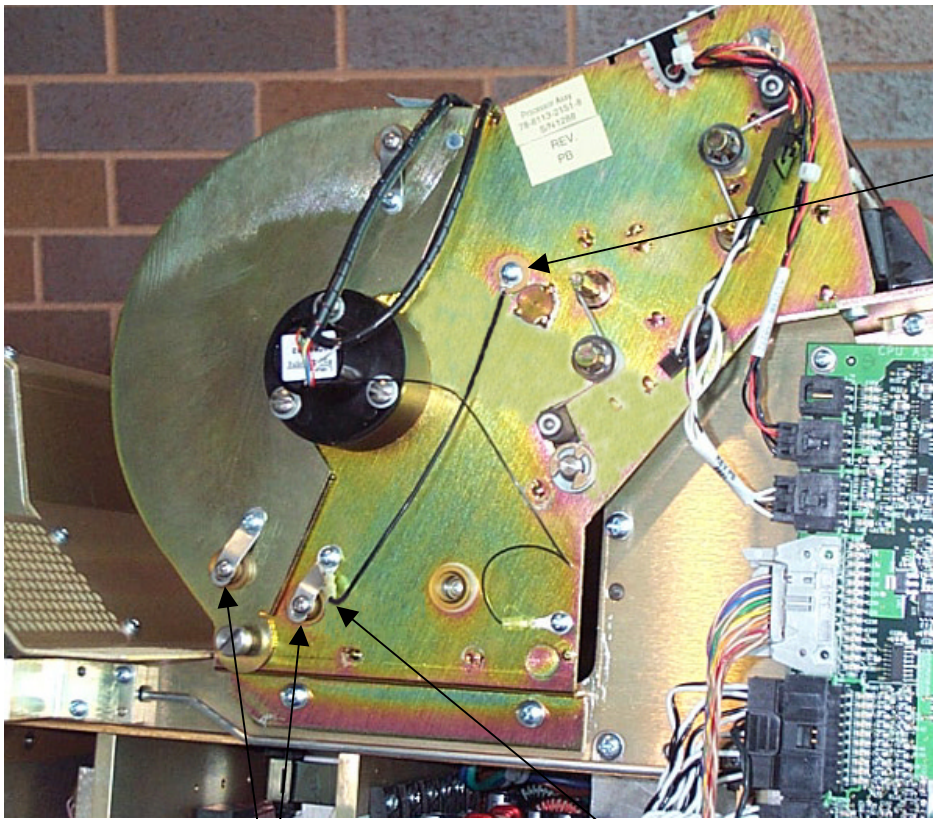

Figure 2
2. Attach one end of the WIRE (supplied in the KIT) to the STRIPPER ASSEMBLY using the right mounting SCREW of the STRIPPER ASSEMBLY (see Fig. 2).
3. Attach one end of 1 small STRAP (supplied in the KIT) along with the loose end of the WIRE referred to in Step 2, to the FRAME where the CLIP was removed in Step 1 (see Fig. 2).
4. Remove the SCREW holding the ROLLER ASSEMBLY MOUNTING ROD, and using the supplied SPACER and SCREW, attach the loose end of the small STRAP to the ROLLER ASSEMBLY MOUNTING ROD (see Fig. 2).